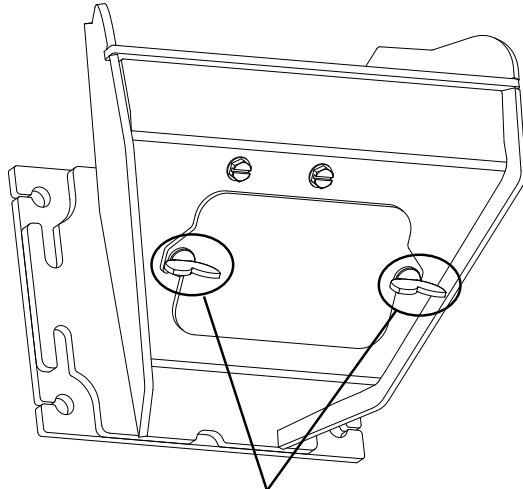

Fig. 33
Whenever adding fuel to the hopper, take the time and scrape the grate surface of the burnpot, using the scraper tool provided. This can be done while a fire is burning. Wearing heat resistant gloves, open the firebox door. Scrape any accumulated ashes from in front of the fire, into the ash pan. Now, scrape under the fire, in a downward direction, to loosen any carbon deposits. Do not scrape the fire out of the pot. Whatever you loosen will be pushed out with the flow of new fuel into the pot. (Fig. 33)
4. Scrape burnpot with flat end of scraper provided with the stove. Inspect the holes on the burnpot surface. See Fig. 33.
2. Loosen the (2) wing thumb screws on the lower front angle of the burn pot. (Fig. 33)